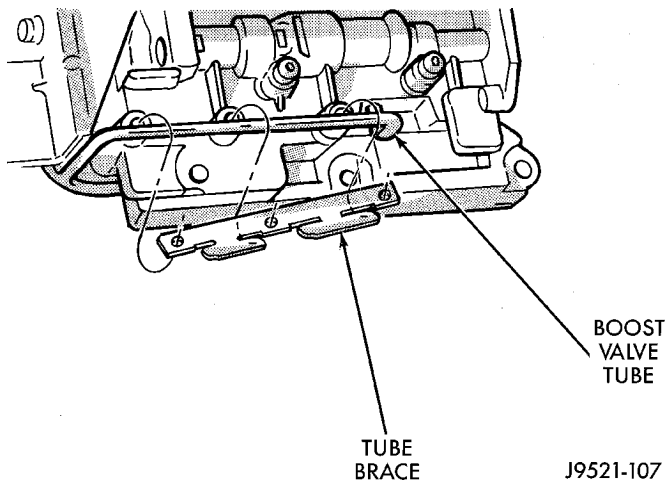

Fig. 87 Boost Valve Tube And Brace
(4) Insert and seat each end of tube in housings.
(5) Slide tube brace under tube and into alignment with valve body screw holes (Fig. 87).
(6) Install and finger tighten three screws that secure tube brace to valve body housings (Fig. 87).